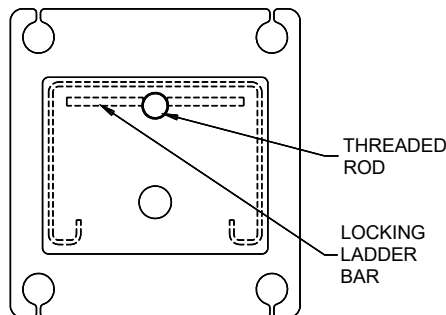

**Fig 7 – Final Runway Positioning**
- 14) Check the layout of the lift in the bay. (**This is the last opportunity to reposition the lift.**) Adjust the position of the runways so the distance from power side jack rail to idler side jack rail is the same at the front and the rear and the diagonal measurements from the front tip of one rail to rear tip of the opposite rail are within 1/4", **Fig 7**.